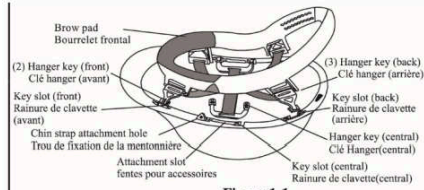

Figure 1-1
- Install the suspension to the helmet by inserting the four or six suspension hanger keys to the four or six-key slots of the helmet. (Figure 1-1,1-2) (The brow pad is located at the front of the helmet).